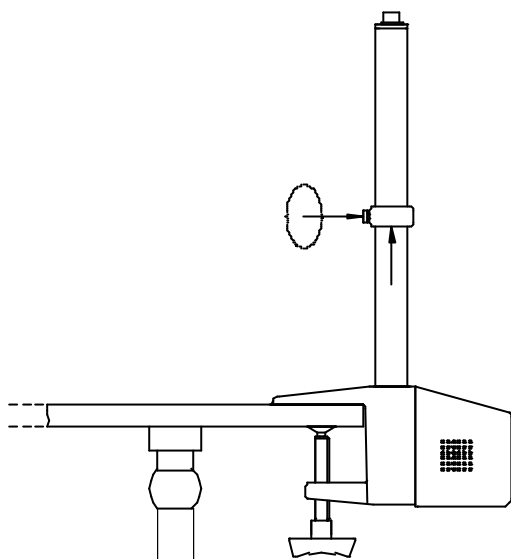

Figure 4 Setting the safety clamp
3. Tighten the pillar safety clamp at a point midway up the vertical pillar. Refer to figure 4.